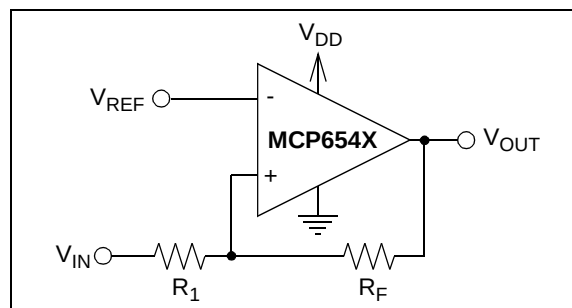
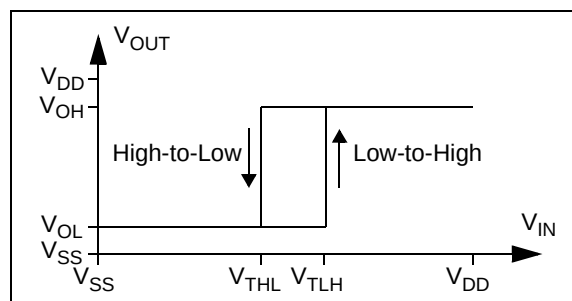

FIGURE 4-4: Non-inverting Circuit with Hysteresis for Single-supply.
FIGURE 4-5: Hysteresis Diagram for the Non-Inverting Circuit.
Figure 4-4 shows a non-inverting circuit for single-supply applications using just two resistors. The resulting hysteresis diagram is shown in Figure 4-5.
The trip points for Figures 4-4 and 4-5 are:
2. Non-inverting Configuration (Figure 4-4):